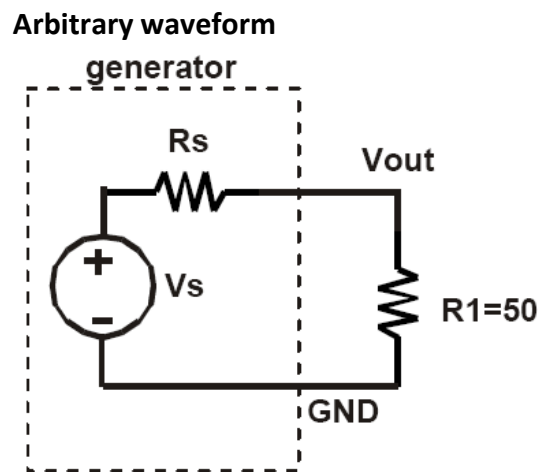

Figure 1. Internal resistance of an arbitrary waveform generator.
Figure 1 shows a simple circuit of an arbitrary waveform generator driving a resistive load. This circuit is used to illustrate and measure the internal resistance of an arbitrary waveform generator.
The arbitrary waveform generator is a voltage source V_s with a finite non-zero source resistance R_s (See Figure 1). The output voltage V_{out} might be very different to V_s depending on the resistive load R_1 .
1. Derive an equation for V_{out} in Figure 1 in terms of V_s , R_s , and R_1 .
2. For the circuit in Figure 1, given that $V_s = 1\text{ V}$, compute V_{out} for these two cases: (a) $R_1 = R_s$, and (b) $R_1 \gg R_s$.
1. Build the circuit in Figure 1 using a $50\ \Omega$ resistor as load. Set the function generator to provide a square wave with amplitude 400 mV, DC offset 0V, and frequency 100 Hz.